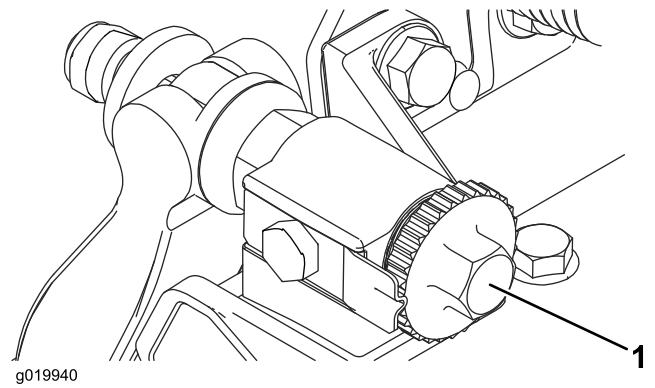

Figure 31
1. Loosen reel to bedknife contact by turning the bedknife adjusting knobs (Figure 31) counterclockwise until no contact exists.